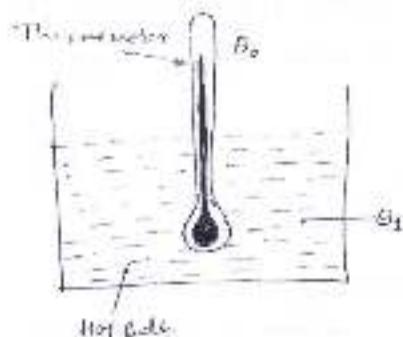

Fig: 1
- Q4) a) Illustrate a mathematical model for a thermal system given in the fig: 1 and represent its transfer function. The bath temperature is θ_b and temperature indicated by thermometer is θ_o . 10